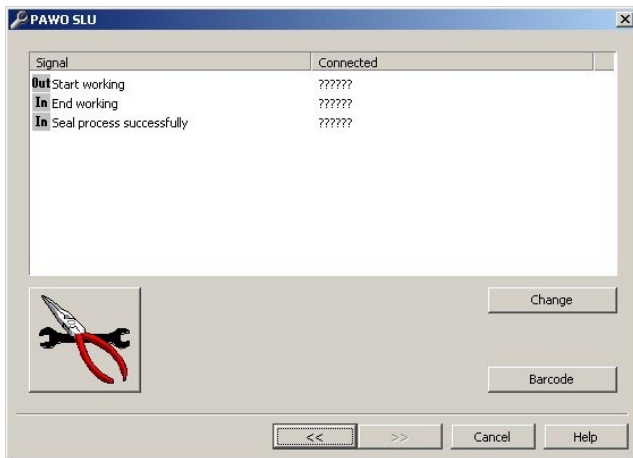

Figure 26
- h. Select the “Change” button as shown in Figure 26.